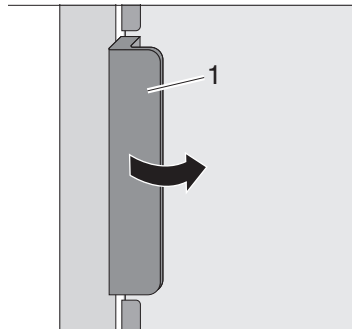
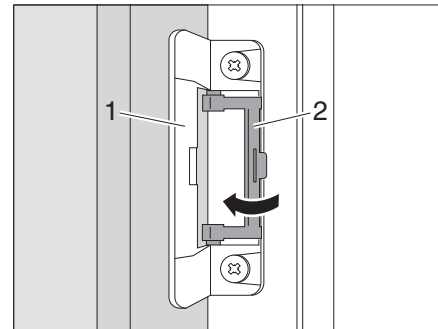

Fig. 330 Opening the refrigerator door
Fig. 331 Locking the ventilation position
- Open the refrigerator door at the handle (Fig. 330,1). The locking mechanism (Fig. 331,1) is released automatically.
- Fold open the latch (Fig. 331,2).